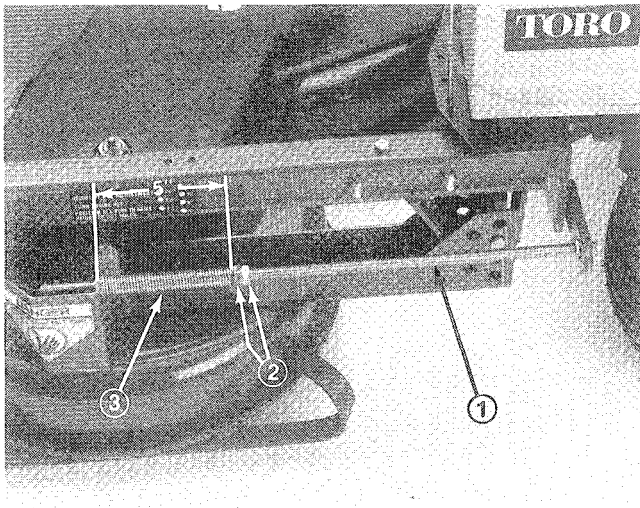

Figure 18
2. Loosen jam nuts on each adjusting shaft and remove engine to deck drive belt (Fig. 18).